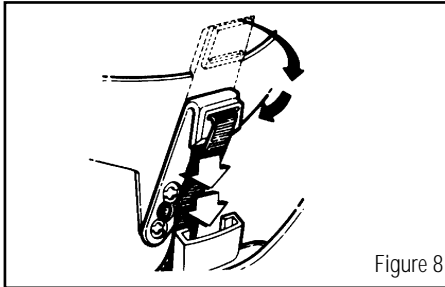

Figure 8
3. Bending hanger keys at hinge, insert keys into respective key slots. Push firmly until keys snap into place. (Figure 8)